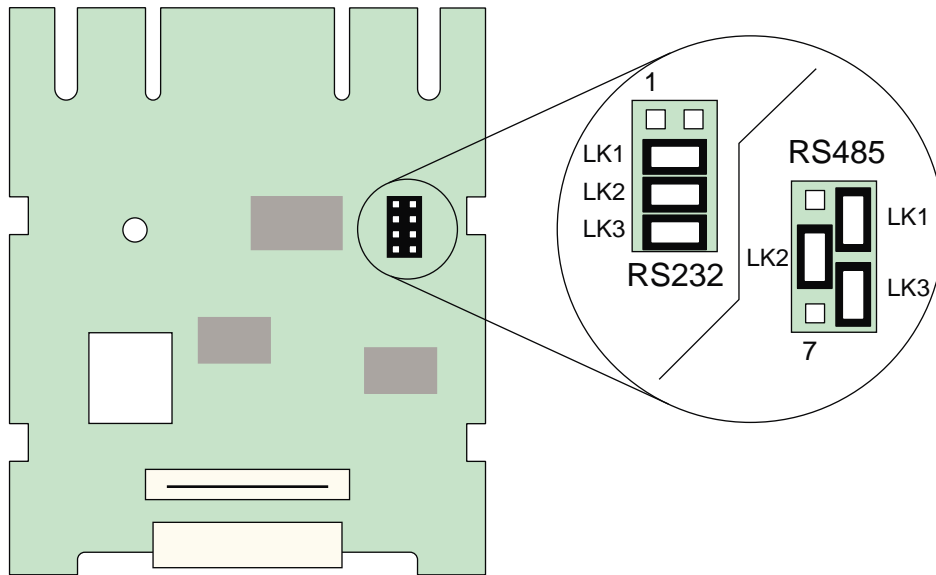

Figure 3.4.1b Serial communications board link settings for RS232 and RS485
4. Communications boards have three links which select either RS232 or RS485 as the transmission standard (see figure 3.4.1b).